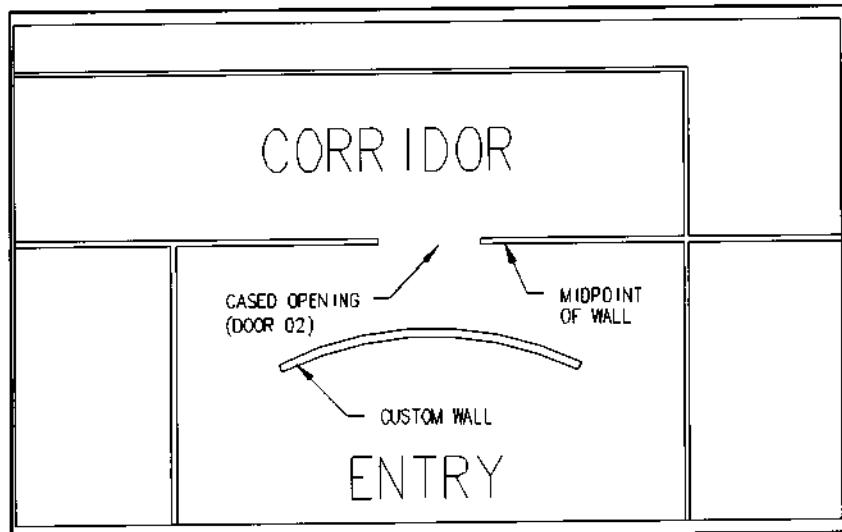

Figure 13.
1. Zoom into the area shown in Figure 13 and select Cased Opening from the Doors menu to create a wall opening at the midpoint of the lower wall line behind the custom wall in the Entry.